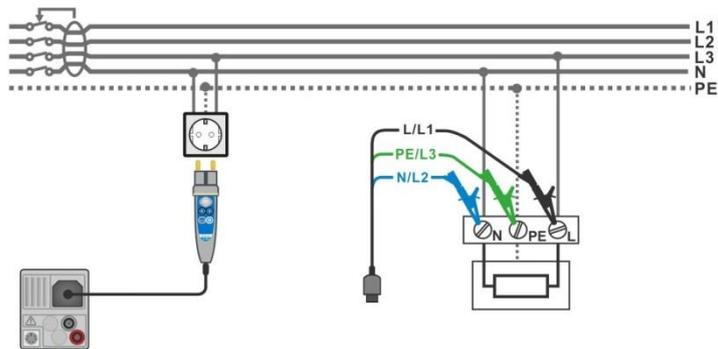

Figure 7.37: Connection of Plug commander and 3-wire test lead
- ▶ Connect test leads or Plug commander to the object under test, see **Figure 7.37**.